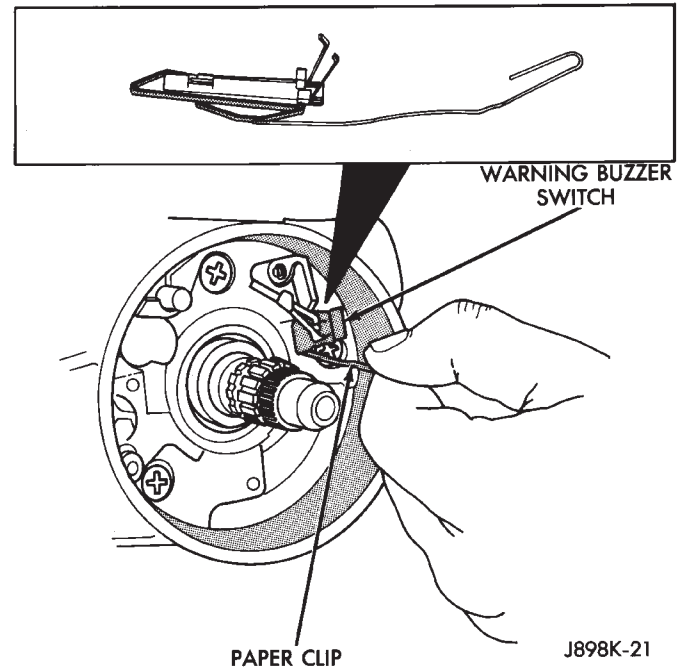

Fig. 10 Buzzer Switch Removal
(28) Pull turn/hazard switch out of column far enough to allow access to remaining screws.
(29) Insert ignition key in lock cylinder and turn ignition switch to ON position.
(30) Remove key warning buzzer switch and retaining clip with a paper clip inserted below retainer so that retainer is flattened (Fig. 10).